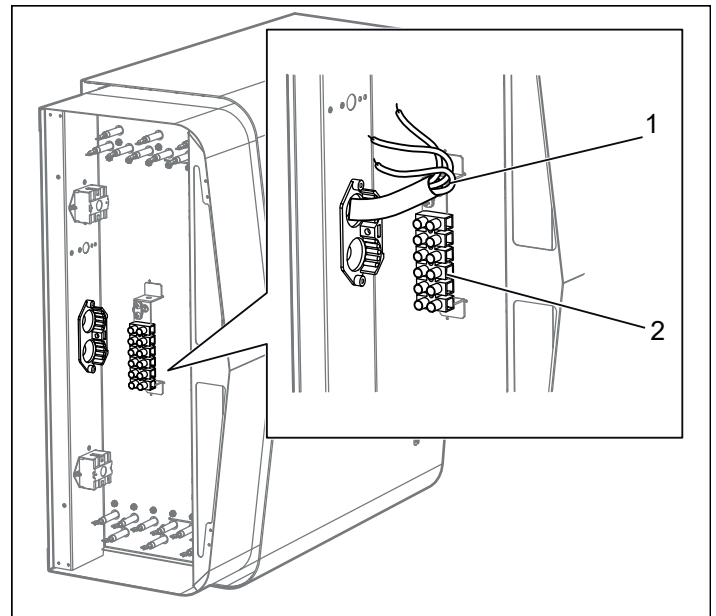

Figure 10: Electrical wiring
2. Connect the electrical cable (see Figure 10) according to the wiring diagram (see the Connection/wiring diagram section, Figure 17-24).